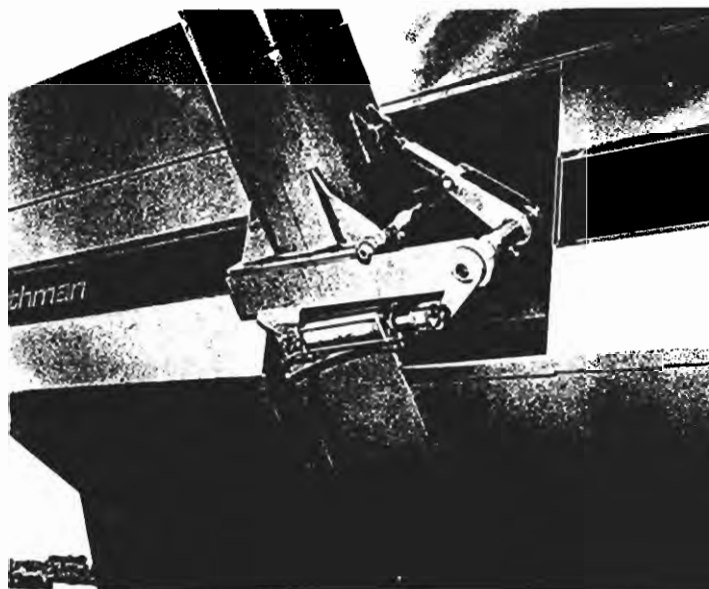

FIGURE 4: OVER-CENTER AUGER LOCK
Note: Over center adjusting linkage strap will require adjustment to properly mesh auger surfaces and corresponding. Your Orthman Grain Shuttle is equipped with four (4) dog pins in the auger dog to provide a more positive auger drive and to equalize stress to prevent fatigue failure of pins. These are shown in Figures 4 & 5. See Step 6 to adjust. Top auger setting (page 2.12) must also be checked. Make sure bearing lock collar is secure.